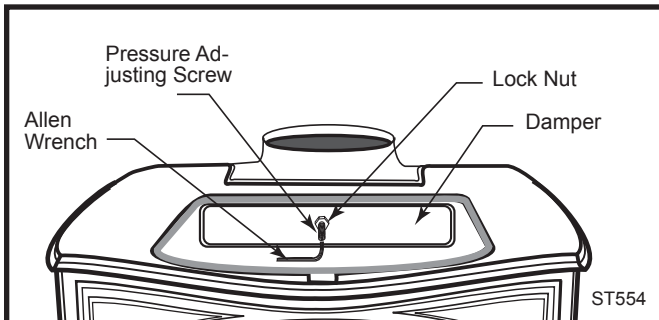

Fig. 39 Adjust the damper with the Allen wrench.
1. Remove the griddle. Loosen the lock nut at the center of the damper. (Fig. 39)